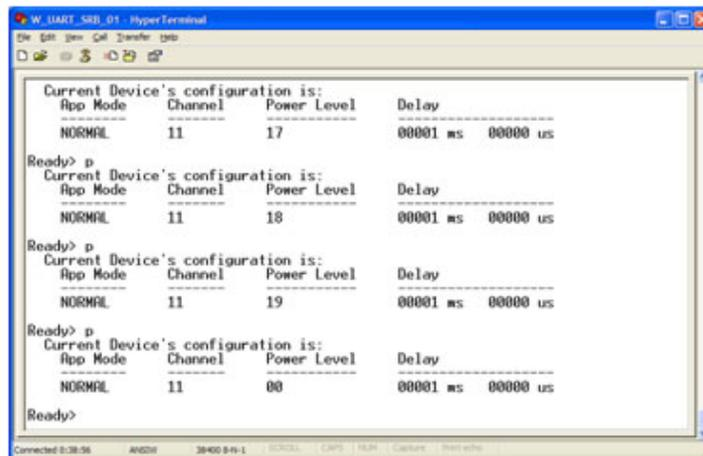

Figure 8-9. Power output adjustment
5. Type “p“ to change radio’s output power. The power increases each time “p” is typed until the maximum value is reached. When the maximum value is reached, it resets to the minimum value and begins increasing again. See Figure 8-9.